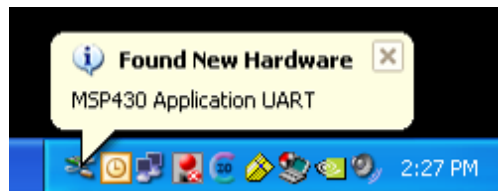

Figure 14. Windows XP Hardware Recognition for MSP430 Application UART
5. Windows will recognize another new hardware driver to be installed called **MSP430 Application UART** (Figure 14).